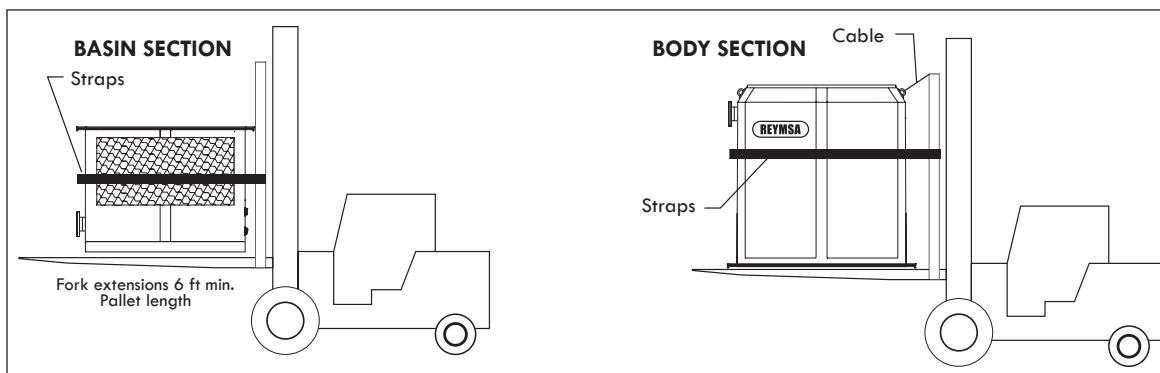
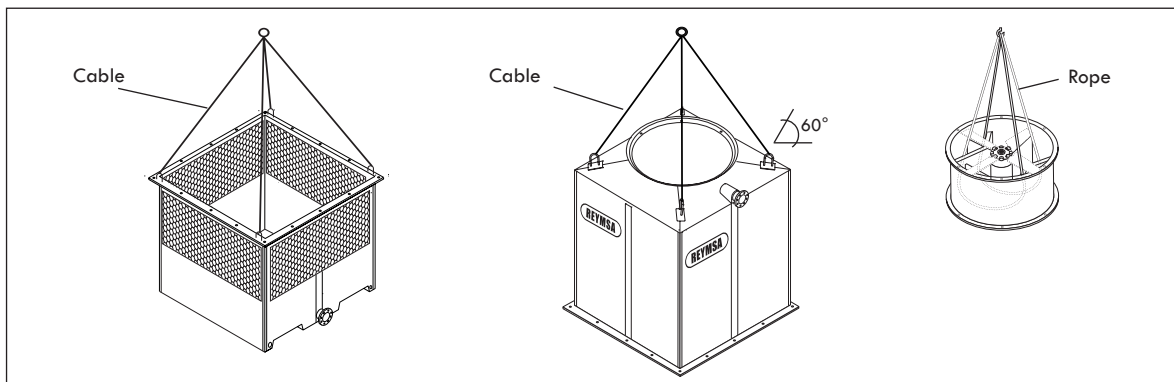

Figure A-3: Single Fan Tower fork lifting
Figure A-4: Single Fan Tower crane lifting
- B. After verifying the equipment is received in proper condition, proceed to unload it piece by piece, with a crane or forklift of the appropriate capacity (see Figure A-3 and Figure A-4 for reference).
- C. For crane lifting, it's recommended to use a minimum lifting angle of 60° between the strap and the horizontal. The basin section of the Single Fan towers has U-bolts on the flange for lifting, one on each corner. Place the straps through the u-bolts (as shown in Figure A-4). Don't balance until tensing the straps.